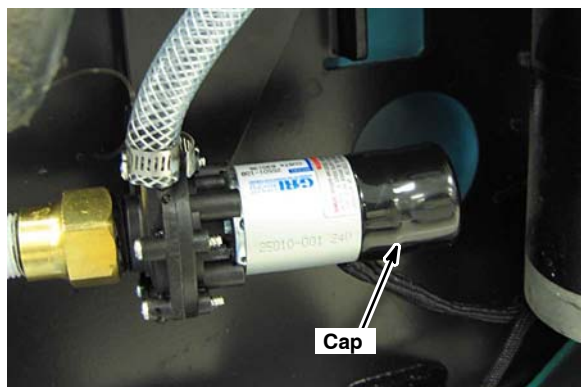

Fig. 7
11. Install the black protective cap on the wand pump (Figure 7). Secure cap with supplied wire-tie.